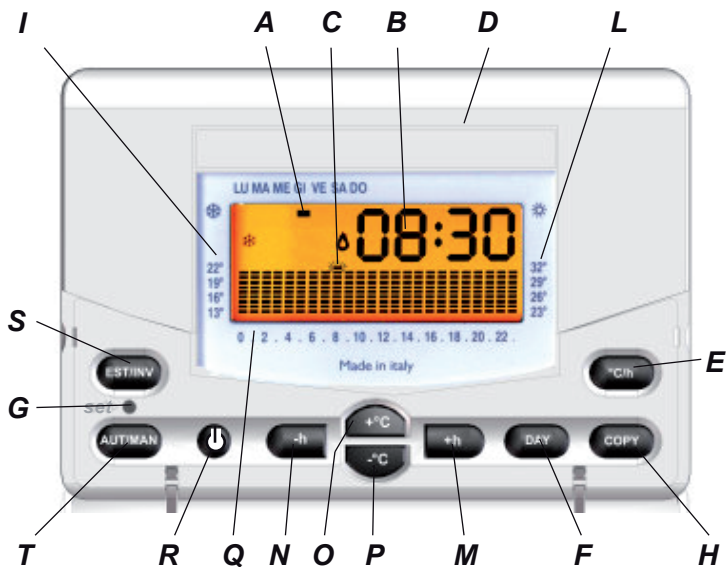

Fig.14
The top-left segment (A in Fig. 14), below the printed text, indicates the date of the programme.
The programmed temperature (B in Fig. 14) is shown in the top right-hand corner during the programming phase, and is identified by the blinking date and "C" symbol indicating the temperature in °C.
Pressing the °C/h button (Fig.14) during normal operation displays the date and ambient temperature in alternation.
Once powered, **Easy Radio** shows a standard diagram for use and the clock starts at 00.00 on Monday (MON). To edit the standard programme, select the required day by pressing the DAY button (Fig. 14) and change the daily graph using the four central buttons arranged in a cross.
The +h and -h buttons (Fig. 14) move the cursor horizontally along the TIME axis and the +°C and -°C buttons (Fig.14) edit the temperature.
- Press the DAY button (F in Fig. 14) to move to the next day and view the saved programme (if one is not available, the standard graph is displayed) which you can edit as described previously.
After programming the entire week, you need to update the time and date by pressing the SET button with a pointed tool. (Fig.14).
The **Easy Radio** is now ready for normal operation, and the flame symbol will appear on the display (Fig. 14) whenever a load (heating or air-conditioning) is activated.
Press the AUT/MAN (Fig. 14) to select manual mode. The graph (still saved in the memory) is replaced by the "hand" symbol (Fig. 14).
The **Easy Radio** now acts as a simple ambient thermostat and you can set the temperature with the **+°C** and **-°C** buttons (O, P in Fig.14). The set temperature, shown on the display, is maintained until you exit manual mode by pressing the AUT/MAN again (to enter automatic mode).
Press the  button (R in Fig.14) for two seconds to turn off the chronothermostat. The **Easy Radio** deactivates the functions of the set programmes (still saved in the memory) and displays, in alternation, the word OFF and the current time or temperature reading.
If you need to cancel a programme you have entered (e.g. after a programming test), press the **AUT/MAN** and **COPY** buttons (T and H in Fig. 14) at the same time for about two seconds; **Easy Radio** restarts initialisation as described previously.